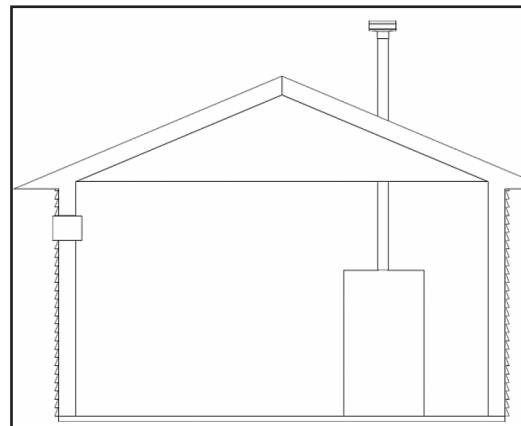

Figure 23 - Combustion Air from Outdoors - Single Opening
4. If a single combustion air opening is provided to bring combustion air in directly from the outdoors, the opening must be sized based on a minimum free area of one square inch per 3000 BTU/hr. This opening must be located within 12" of the top of the enclosure. See Figure 23.